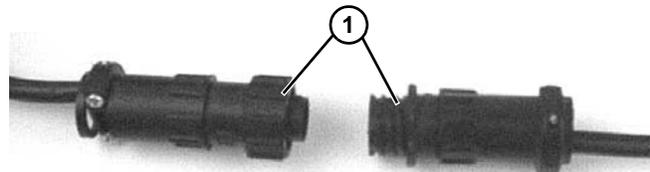

Figure 15
1. For DC variable speed motor, unplug cord at disconnect (**Figure 15, item 1**).